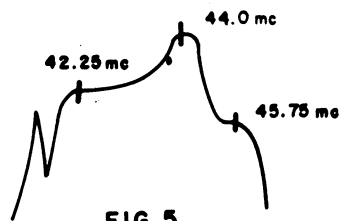

FIG. 5
15. Maintain generator output to produce approximately 0.2 volts P-P indication on the oscilloscope (as above) and adjust the grid coil (L-5) to center the 44.0 mc marker on the peak of the response as indicated in Fig. 5, disregarding the tilt of the overall waveshape.